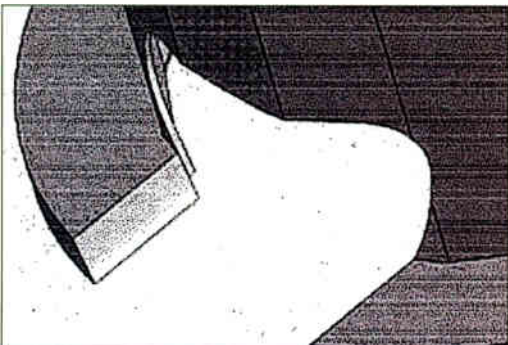

Figure 2. The fillet weld is in the outside-base plate/pole-wall intersection and on the bottom base-plate/pole-wall intersection.
■ *Socket base-plate connection (base plate sleeves over outside of pole wall) with double fillet welds* — The fillet weld is in two places: the outside base-plate/pole-wall intersection and on the bottom base-plate/pole-wall intersection. (See Figure 2, left.) Although other joints are possible, including the use of stiffeners, the majority of monopoles